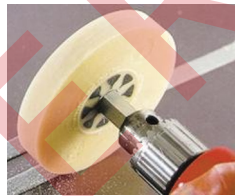

Figure 21: Stripe Off Wheel.
- **The Stripe Off Wheel** (3M part number 07498: Figure 21) is a special rubber disk which mounts onto a standard 3/8in electric drill.